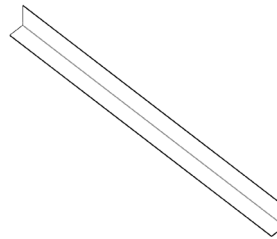

Figure 1: Rear Coil Support Bracket (Only required for downflow position).
3. Remove the Rear Coil Support Bracket (Fig 1) from the carton.